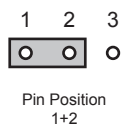

Figure 2.2 J7 — Default Position
- **Pin 1** (left) + **Pin 2** (center) position — In this position, the analog reference is terminated with a 75ohm resistor. This configuration is to be used for point-to-point cabling, or on the last card of a daisy chain topology. This is the default position (**Figure 2.2**).